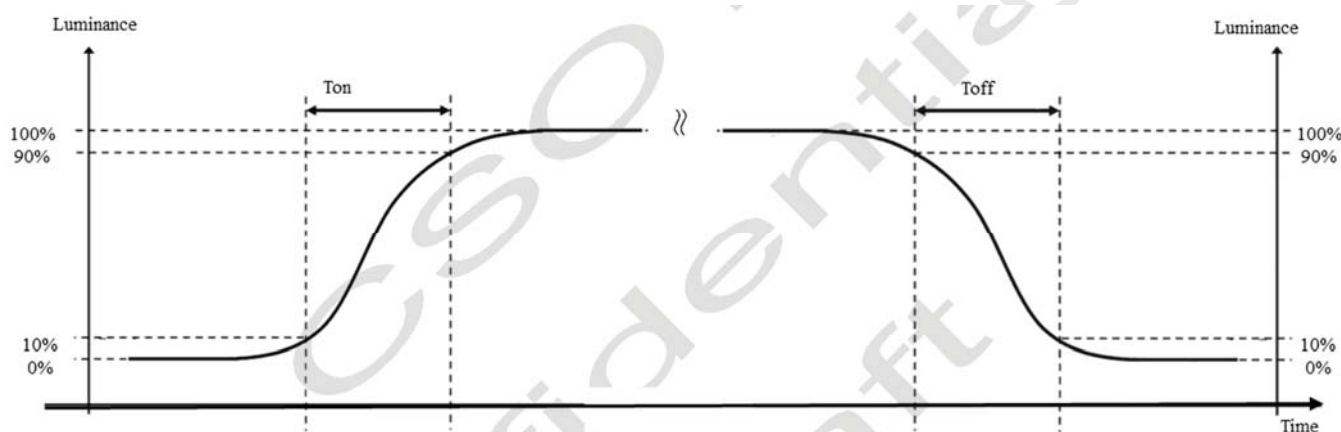

Fig. 7.4 The definition of  $T_{on}$ ,  $T_{off}$
(3) The electro-optical response time measurements shall be made as Figure 7.4 by switching the “data” input signal ON and OFF. The times needed for the luminance to change from 10% to 90% is  $T_{on}$ , and 90% to 10% is  $T_{off}$ .